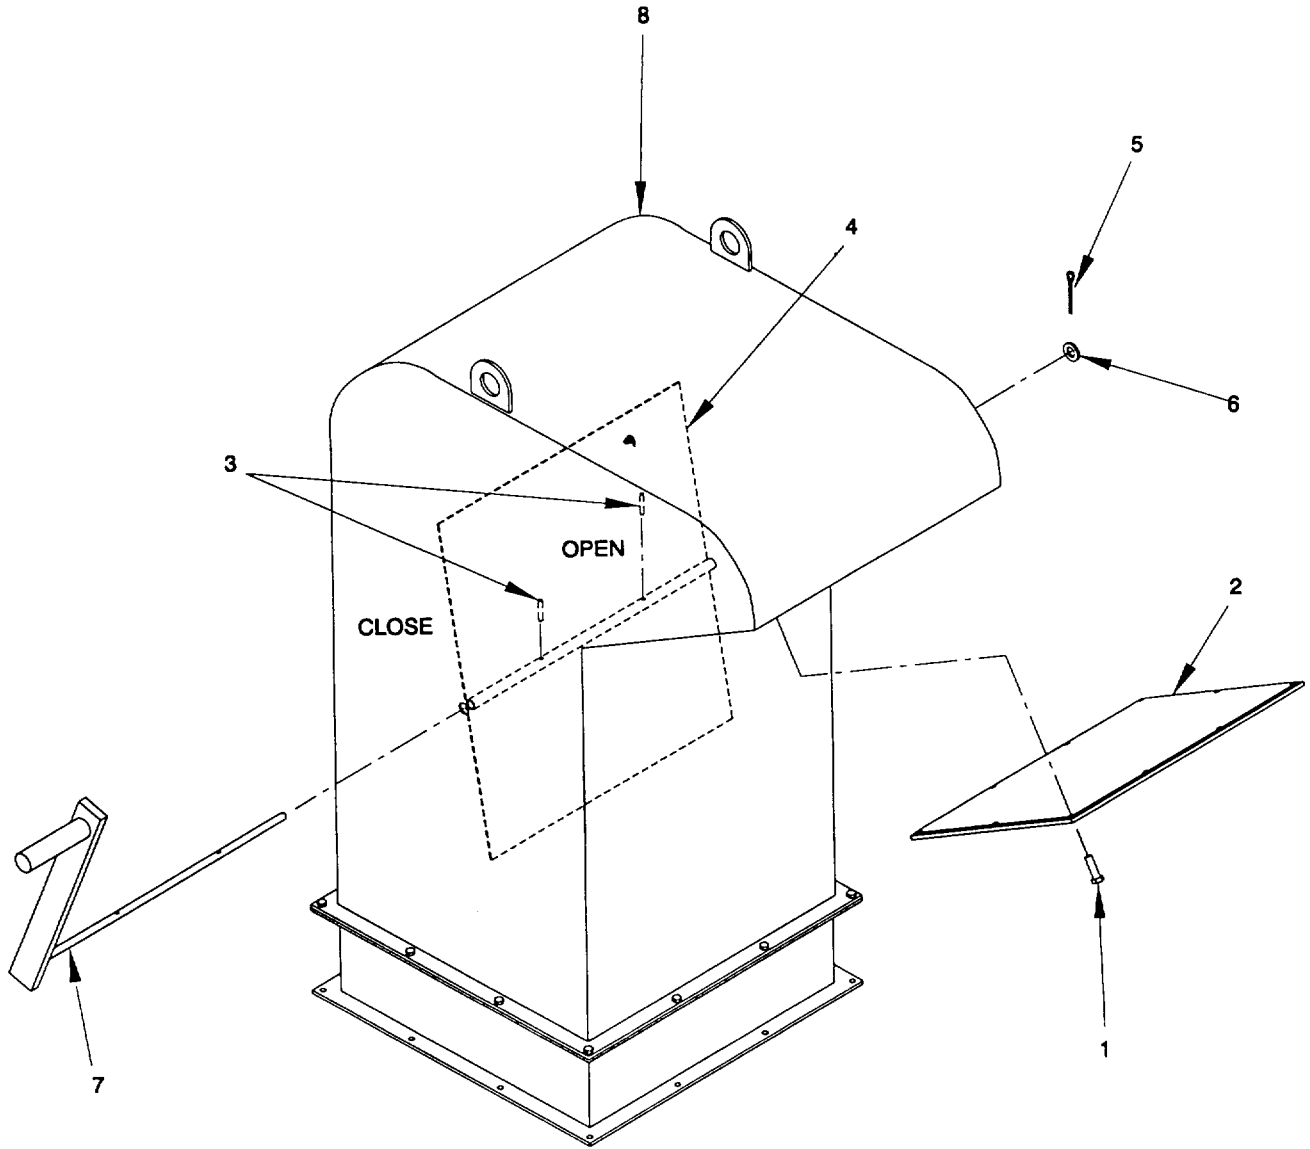

Figure 2-167. Locking Handle, Exhaust Plenum, Remove/Install.
a. *Remove.* (figure 2-167)
- (1) Remove eight hex head capscrews (1) securing exhaust plenum cover (2) to exhaust plenum (8). Remove exhaust plenum cover (2)
- (2) Remove two drive pins (3) securing exhaust plenum door (4) to locking handle (7).
- (3) Remove cotter pin (5) and flat washer (6) securing locking handle (7) to exhaust plenum (8). Support exhaust plenum door (4) and remove locking handle (7).
b. *Install.* (figure 2-167)
- (1) Hold exhaust plenum door (4) in place and install locking handle (7) through exhaust plenum (8) and exhaust plenum door (4) When in the closed position, door must contact stop and seal bars.
- (2) Secure locking handle (7) with flat washer (6) and cotter pin (5).
- (3) Secure exhaust plenum door (4) to locking handle (7) with two drive pins (3).
- (4) Position exhaust plenum cover (2) on exhaust plenum (8) and secure with eight hex head capscrews (1)